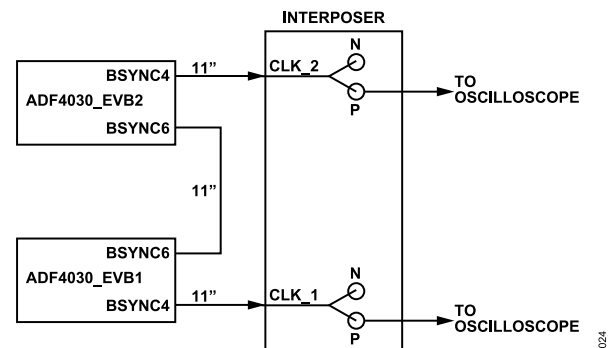
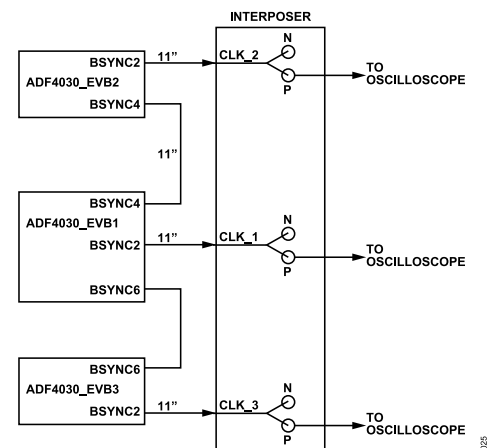

Figure 25. Two ADF4030 ICs Sync Demo Block Diagram
Figure 26. Three ADF4030 ICs Sync Demo Block Diagram
11. For the two ADF4030 sync demo, use the two provided 11 in twinax cables to connect the BSYNC4 terminal of each EV-ADF4030SD1Z to the CLK_1 and CLK_2 twinax connectors of the interposer (Figure 25). Note each P and N line of these channels has a 50 Ω to ground.
12. For the three ADF4030 sync demo, use the three provided 11 in twinax cables to connect the BSYNC2 terminal of each EV-ADF4030SD1Z to the CLK_1, CLK_2, and CLK_3 twinax connectors of the interposer (see Figure 26). Note each P and N line of these channels has a 50 Ω to ground.
14. In case of the two ADF4030 sync demo, use one provided 11in twinax cable to connect ADF4030_EVB1 BSYNC6 terminal to the ADF4030_EVB2 BSYNC6 terminal. The length of this connection does not matter (Figure 25).
15. In case of the three ADF4030 sync demo, use two 11in twinax cables to connect ADF4030_EVB1 BSYNC4 and BSYNC6 terminals to the ADF4030_EVB2 BSYNC4 terminal and ADF4030_EVB3 BSYNC6 terminal, respectively. The length of these connections does not matter (see Figure 26).
- The connections between boards and to the interposer in Figure 25 and Figure 26 are suggestions. The ADF4030 python scripts provided with the demo allow full flexibility in selecting the connections. See the Step-By-Step Demos Description section for more details.
3. CHANNEL_ADF4030_1_to_2 represents the number of the BSYNC channels on both ADF4030_EVB1 and ADF4030_EVB2 that are connected together. By default, in the two ADF4030 synchronization demo, channel_ADF4030_1_to_2 = 6 (see Figure 25), meaning the BSYNC6 channel of the ADF4030_EVB1 is connected to the BSYNC6 channel of the ADF4030_EVB2. In the three ADF4030 synchronization demo, CHANNEL_ADF4030_1_to_2 = 4 (see Figure 26), meaning the BSYNC4 channel of the ADF4030_EVB1 is connected to the BSYNC4 channel of the ADF4030_EVB2.
4. CHANNEL_ADF4030_1_to_3 represents the number of the BSYNC channels on both ADF4030_EVB1 and ADF4030_EVB3 that are connected together in the three ADF4030 synchronization demo. By default, CHANNEL_ADF4030_1_to_3 = 6 (see Figure 26), meaning the BSYNC6 channel of the ADF4030_EVB1 is connected to the BSYNC6 channel of the ADF4030_EVB3.
5. CHANNEL_ADF4030_TO_OSC represents the number of the BSYNC channels on all of the ADF4030 ICs of the demos that are connected to the interposer and, ultimately, to the oscilloscope. By default, in the two ADF4030 synchronization demo, CHANNEL_ADF4030_TO_OSC = 4 (see Figure 25), meaning the BSYNC4 channels of both EV-ADF4030SD1Z boards are connected to the interposer. In the three ADF4030 synchronization demo, CHANNEL_ADF4030_TO_OSC = 2 (see Figure 26), meaning the BSYNC2 channels of all three EV-ADF4030SD1Z boards are connected to the interposer.